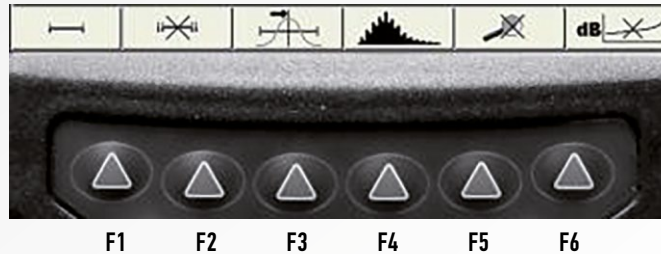

Figure 6
**Note:** Further as the text goes a conventional numbering of the icon windows and corresponding functional keys is used from left to right – from 1 to 6 (Figure 6).